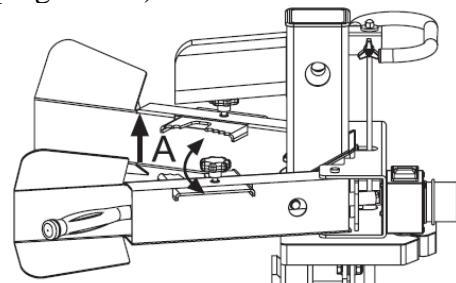

Fig.11a
b) Adjust the Log Holders Claws (A) according to the diameter of the log to obtain most comfortable Control Levers angle (Fig.11a).
c) Hold the log with clamping brackets closely in the control lever guards (Fig.11a).
d) Never open clamping brackets while ram is moving (Fig.11a)